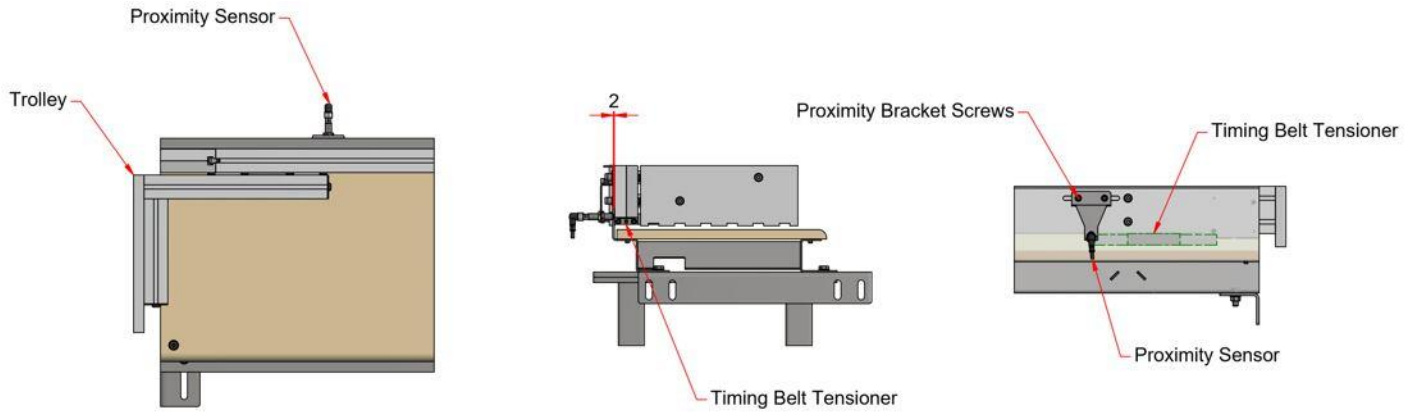

Figure 23, Simple Stop Homing Proximity sensor configuration
- Position the proximity sensor to the rear of the timing belt tensioner as shown in Figure 23.